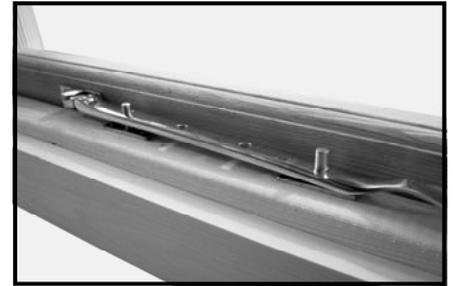

Fig A17
28. **Fitting the Casement Stays.** There are two per window. Place the casement stays evenly on the inside of the window (Fig A17) on top of the draught excluder.